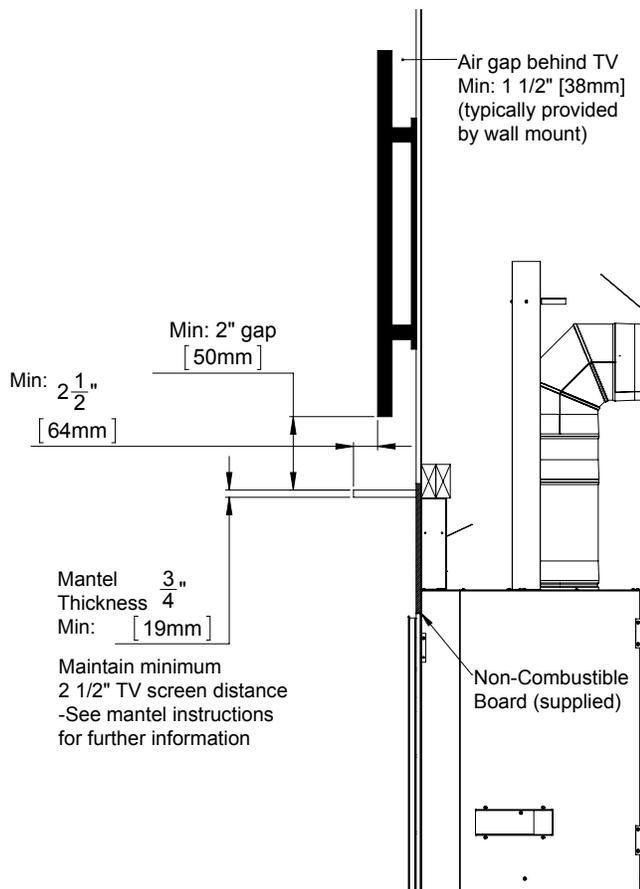

Figure 64. Minimum TV Install
**Mantel Only Installation:** Always maintain minimum clearances (see Figure 64). The total depth of the TV including the wall mount will determine the minimum allowable mantel depth.